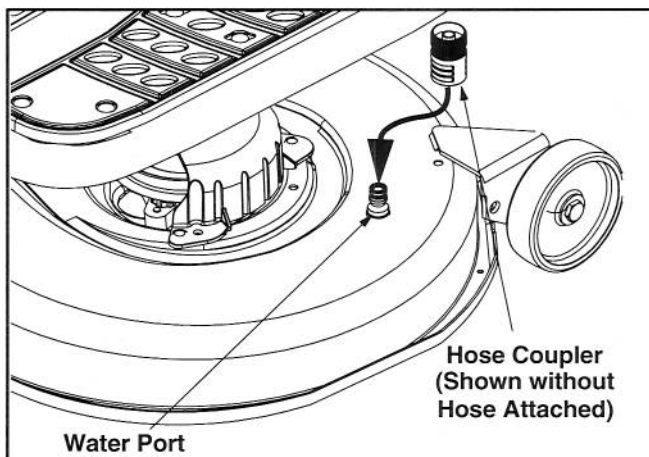

Figure 17
4. Attach the hose coupler to the water port on your decks surface. See Figure 17.